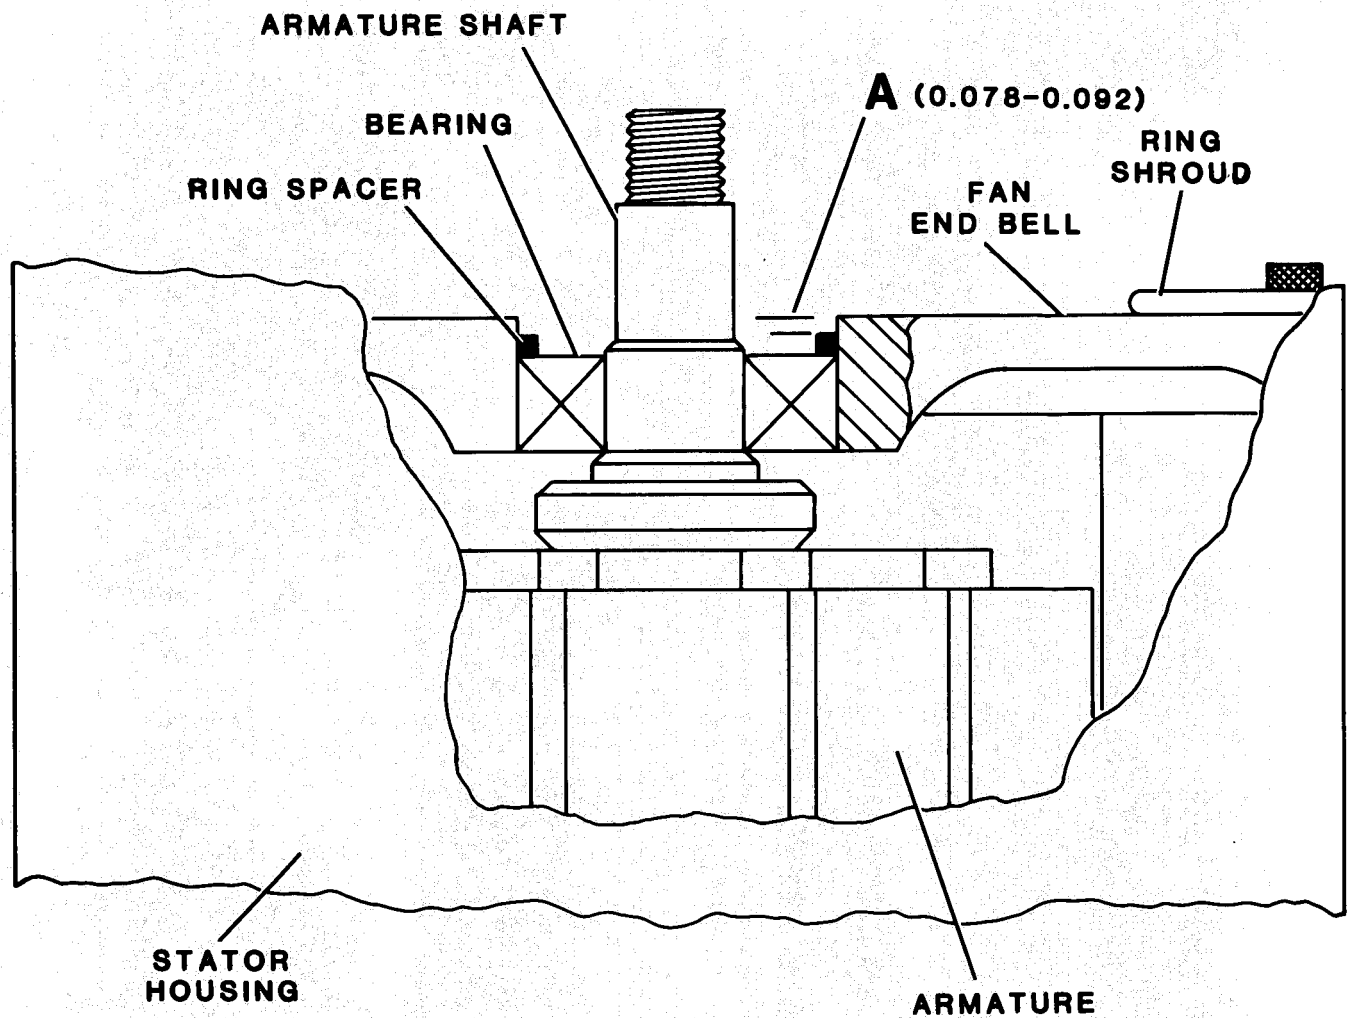

Figure 5-6. Measuring for Spring Washer Axial Distance
(9) Apply thread-locking compound to threads of capscrews (43). Secure mounting end bell to stator housing (46) with washers (44) and capscrews (43). Torque capscrews to 27-33 inch pounds (3.1-3.7 Nm).
(10) Place retaining plate (42), insulating spacer (41), and rectifier mounting flange (40) into position on mounting end bell.
(11) Apply thread-locking compound to threads of capscrews (36). Secure rectifier mounting flange to mounting end bell (45) with shoulder washers (39), washers (38), lockwashers (37), and capscrews (36). Torque capscrews to 27-33 inch pounds (3.1-3.7 Nm).
(12) Place ring shroud (11) on fan end bell (19). Ensure that matchmarks are aligned. Secure ring shroud to end bell with lockwashers (10) and capscrews (9). Torque to 27-33 inch pounds (3.1-3.7 Nm).
(13) Install ring spacer (18) in fan end bell (19) snug against top of bearing (20).
(14) Measure distance A between top of ring spacer and edge of fan end bell as shown in figure 5-6.
(15) Install shims as required to provide axial distance of 0.078 to 0.092 inch for spring washers between ring spacer and retainer plate.